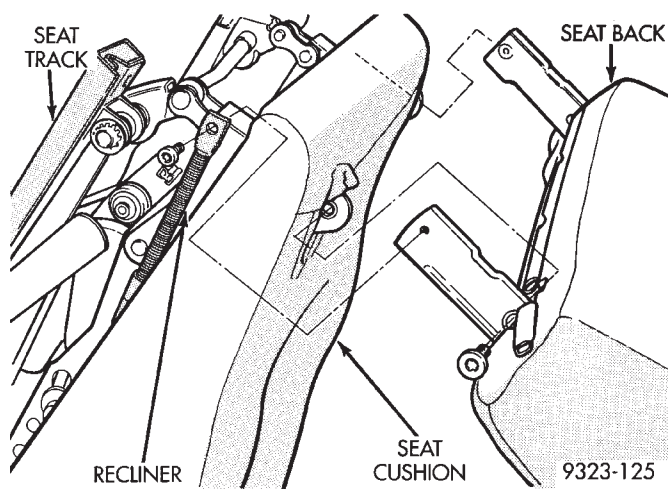
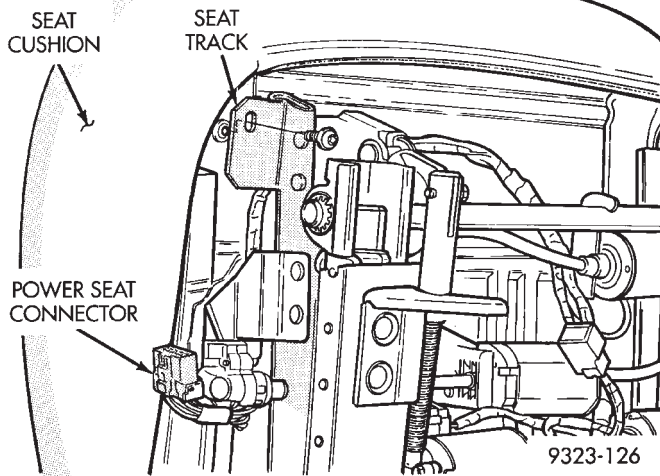

Fig. 2 Recliner Pivot Bolt
Fig. 3 Front Seat Track—Typical
- (1) Remove front seat from vehicle.
- (2) Remove seat cushion side cover and disconnect power seat switch, if equipped.
- (3) Turn bottom of seat upward.
- (4) Remove bolts holding backrest recliners to seat back (Fig. 2).
- (5) Remove bolts holding seat back to cushion.
- (6) Separate seat back from cushion.
- (7) Remove bolts holding seat track to cushion frame (Fig. 3).
- (8) Separate seat track from seat cushion.